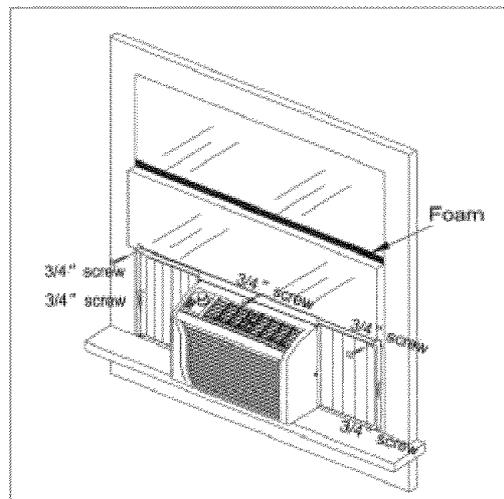

Fig. 6
6. Carefully lift the air conditioner and slide it into the open window. Make sure the bottom guide of the unit drops into the notches of the L brackets. When the air conditioner drops into the L brackets, the air conditioner will be centered in window opening as shown in Fig. 6.
Fix top channel to window sash with one 3/4" screw, and fix side curtain frames with four 3/4" screws as shown in Fig. 6.